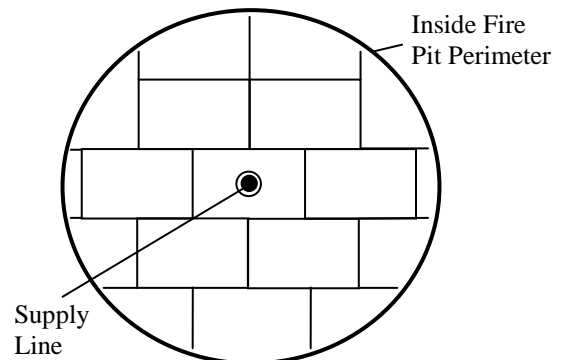

Fig. 4
- b. For bowls that are shallow and have ventilation holes near the bottom, lay out bricks around the bottom perimeter of the bowl and lay the basalt material on top of bricks. Then set your bowl on top of basalt. (Fig. 4)